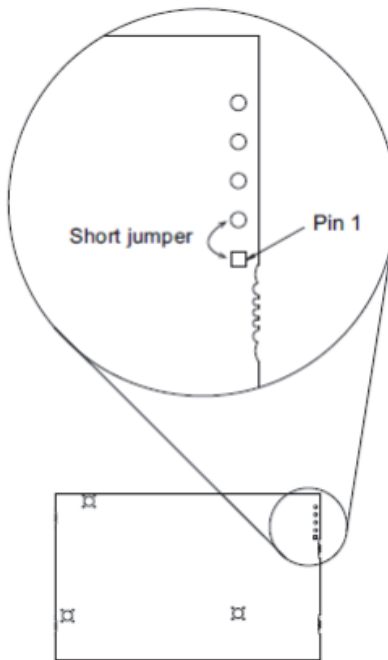

Figure 5 Short jumper location
1. Short jumper as shown in Figure 5.